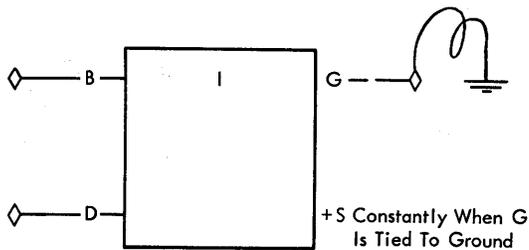

Figure 3-3. Holding an Inverter Output at +S
6. An inverter output may be kept at + S, regardless of its input, by grounding the output. See Figure 3-3.
7. Any  $\pm S$  signal level may be grounded during trouble analysis unless that level is at a memory SMS card or the output of an emitter follower (DE). If a DE output is tied to + S, the + S will be transmitted to the DE input line and represent a short on the transistor driving the DE.